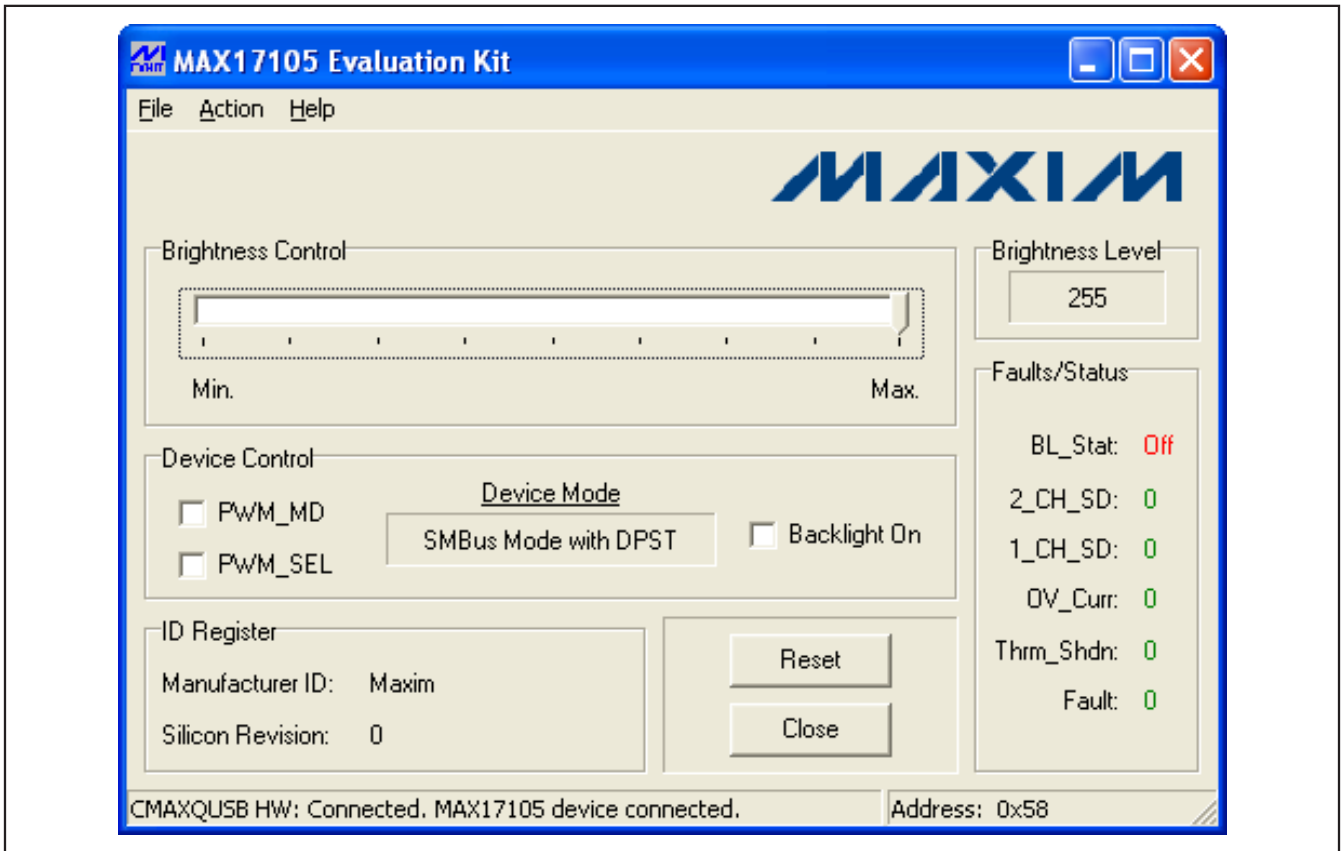

Figure 1. MAX17105 EV Kit Software Main Window
- 9) Normal device operation is verified when **CMAXQUSB Module: Connected. MAX17105 Connected** is displayed at the bottom-left side of the MAX17105 EV kit window (Figure 1).
The program's main window (Figure 1) is navigated by using a mouse or a combination of the Tab and Arrow keys. The MAX17105 EV kit software provides controls for software-configurable features: **Brightness Control**, **Device Control**, **Fault/Status** detection, and **Manufacturer ID/Silicon Revision** detection. Changes to the controls result in a write operation that updates the appropriate registers of the MAX17105. A status bar is also provided at the bottom of the program's main window and is used to verify command module and device connectivity. A **Device Search** option is available from the **Action** menu bar in case the user would like to switch from demo mode to normal operation.
There are two methods for communicating with the MAX17105, through the normal user-interface panel (Figure 1) or through the SMBus commands available by selecting the **Interface Diagnostic Window** menu item from the **Action** menu bar. The **Maxim Command Module Interface** window pops up and includes a 2-wire interface tab that allows for execution of simple I2C/SMBus commands.